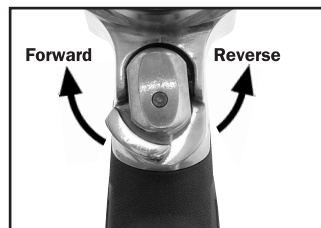

Fig. 4
5. Use the lever underneath the trigger to select forward (clockwise) or reverse (anti-clockwise) rotation (See fig. 4).